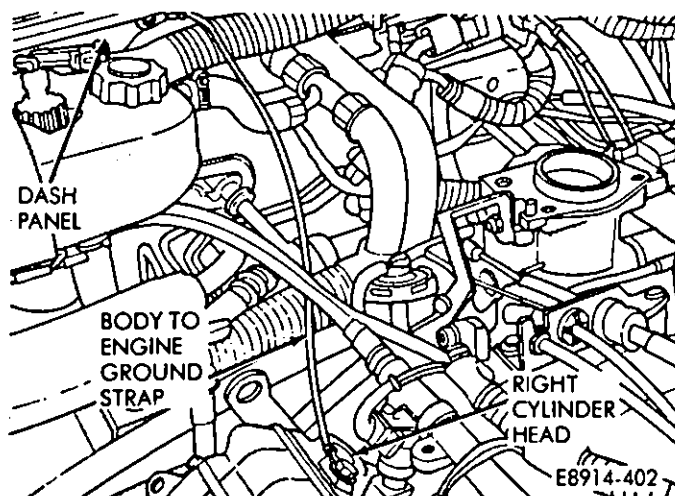

Fig. 29—Body to Engine Ground Strap
(17) Inspect the body to engine ground strap, and the ground strap connections, for corrosion (Fig. 29).